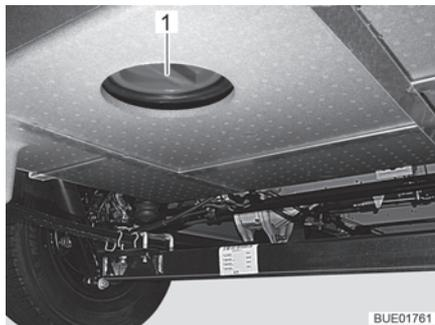

Fig. 211 Cleaning opening of the waste water tank
- Open the cleaning opening (Fig. 211,1) on the waste water tank and the drain cock.